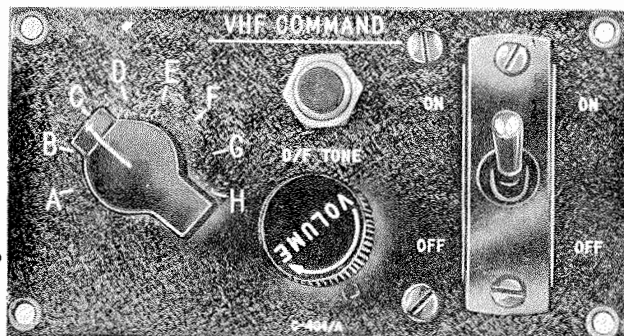

Figure 1-32. Control Panel C-404/A
(1) This unit is installed with Radio Set AN/ARC-3 or AN/ARC-36 in lieu of Control Box C-118/ARC-3 or C-118A/ARC-3 in certain types of aircraft. The Control Panel is electrically but not mechanically interchangeable with the control box. (See figs. 1-32 and 1-34.)
(2) The controls from left-to-right are: the channel selector switch, D/F tone switch, volume control and the ON-OFF switch. Two cables extend out from the control panel and connect to a terminal board exterior to the equipment. All the connections to the control panel are made through these cables. (See figs. 1-32 and 1-34.)